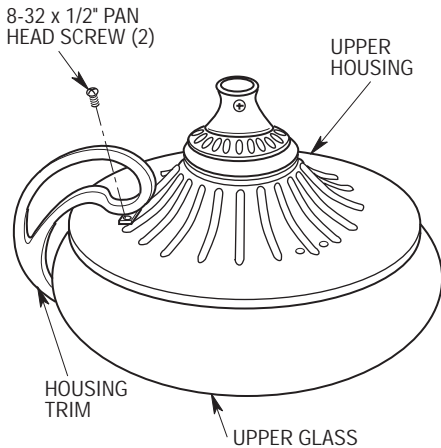

Figure 8
- 13. Place the upper glass on a padded work surface with the larger opening towards the top (Figure 8).
- 15. Align the two holes in the housing trim with two threaded holes in the upper housing (Figure 8). Loosely install two 8-32 x 1/2" pan head screws (supplied) to secure the trim. Repeat this procedure for the remaining two housing trims.